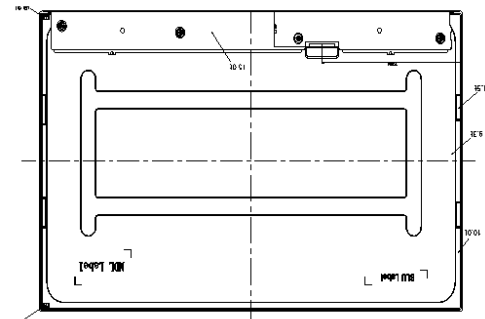

Figure.2 Back side of Module
3. Center Luminance of white is defined as the LCD surface. Luminance shall be measured with all pixels in the view field set first to white. This measurement shall be taken at the locations shown in FIGURE 2 for a total of the measurements per display.
(See FIGURE 2 shown in Appendix).